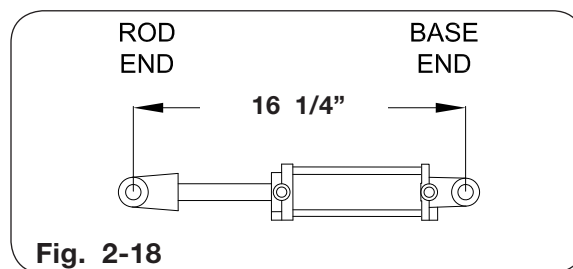

Fig. 2-18
2. Open the parts box/crate (87919B-1245, or 76572B-1245D) and locate the 2 1/2" x 6" hydraulic cylinder (95410), two 1" Dia. x 4" pins (85631), and 1/4" Dia. x 1 7/8" spiral pins (91144-165). Check that retracted cylinder length is 16 1/4". Adjust both cylinders to this dimension as necessary (Fig. 2-18).